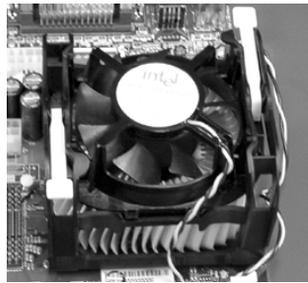

Figure 6
Figure 6 and Table 1 show several possible memory configurations.
<Figure 6>
- The four DIMM sockets are divided into 2 Channels - Dual Channel 1 (DIMM1 and DIMM3) and Dual Channel 2 (DIMM2 and DIMM4), The same dual channel has same color as show in Figure 6, Only in keeping those DIMMs in same type and same size are preferred. **We recommend you to use the same color DIMM sockets to obtain the best memory performance.**